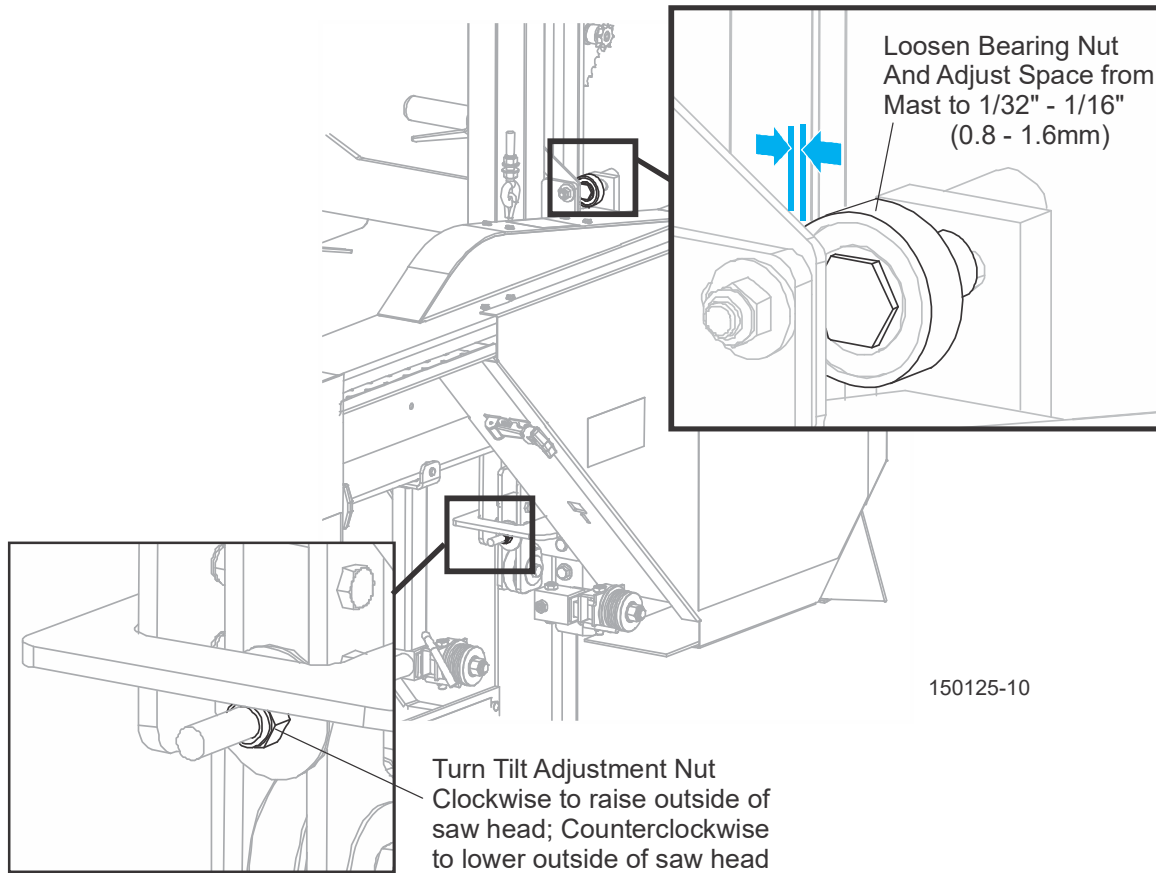

FIG. 4-2
4. Adjust as necessary so the space is $\frac{1}{32}$ " - $\frac{1}{16}$ " (0.8 - 1.6mm). See FIG. 4-2.